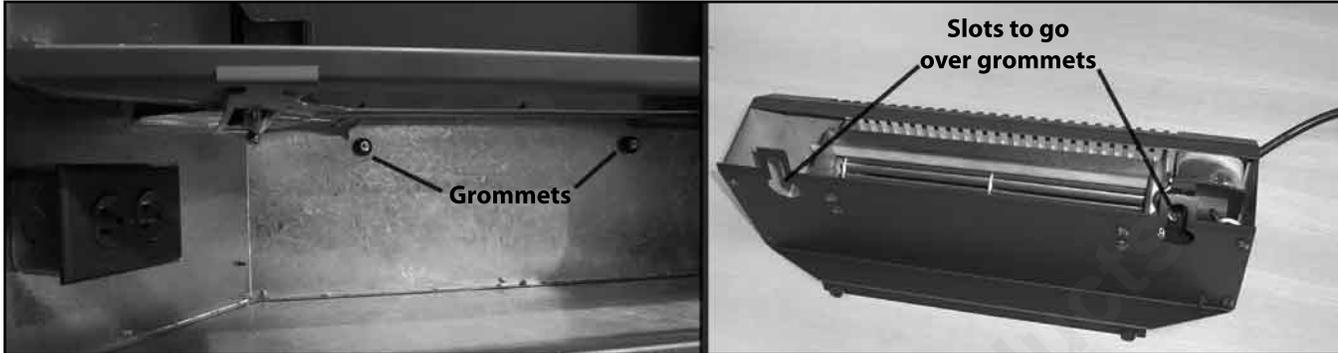

Figure 47. Hook Fan Tabs Over Grommets at Unit Back.
4. Hook the two (2) slots on the fan box over the two (2) grommets on the back wall, refer to Figure 47.